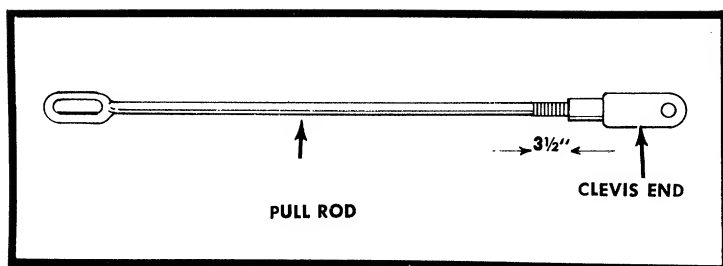

FIGURE 5. PULL RODS
- Step 1. Adjust the clevis end on both the right and left sides of the tractor, so that one inch of threads show. See Figure 5.